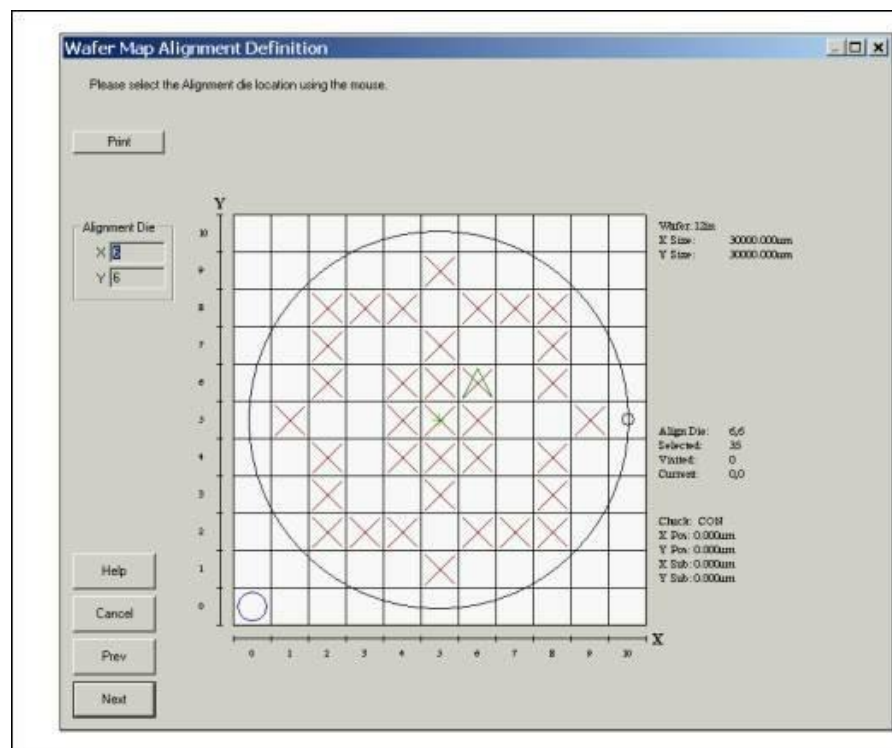

Figure 12
9.3.5.7 Define the location of the alignment die. This is the location where the initial alignment will be made prior to beginning a measurement (Figure 12).